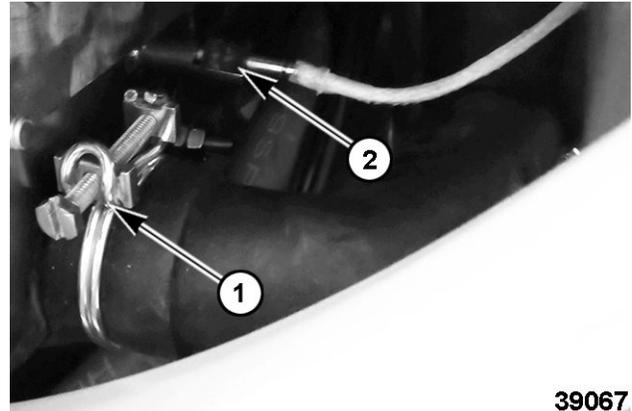

Fig. 46
Remove drain hose (1, Fig. 46) and completely drain steam generator.
6. Disconnect temperature probe (2, Fig. 46).